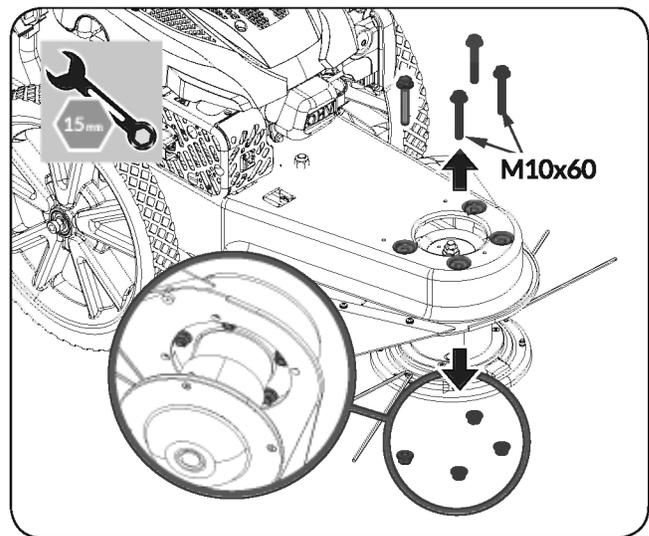

Figure 20
4. Remove the four M10x60 bolts and nuts that hold the deck with the trimmer head. (See **Figure 20**)